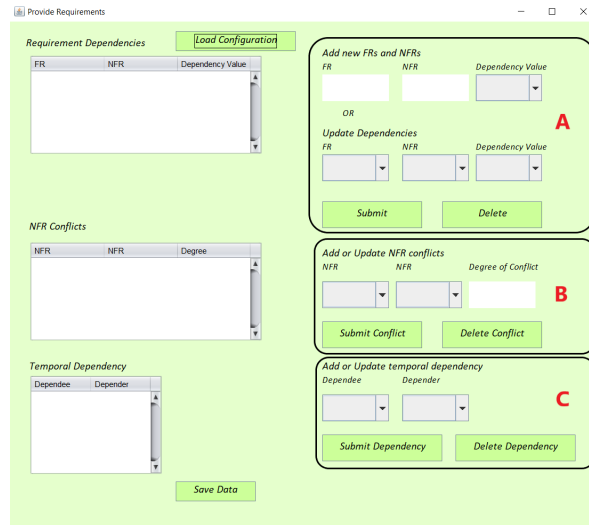

Figure 5: Requirement Specification Interface
Click on button marked as **C-1** (refer to Figure 4) to open requirement specification interface. Figure 5 shows the requirement specification interface.
- (a) Click on the "Load Configuration" (refer to Figure 5) button to load the data of the sample data set in the tool.
- (a) **Adding new FR & NFR:** In the "Add new FRs and NFRs" (refer to portion marked as **A** in Figure 5) section type the label of FR, its corresponding NFR and select the dependency value from the drop-down list (refer to to portion marked as **A** in Figure 5). Then click on the "Submit" button. The table at the left column (refer to Figure 5) displays the input submitted.
- (b) **Adding new NFR conflict:** FRs and NFRs has to be added into the list manually or to be loaded from existing set before specifying the conflicts. In the "Add or Update NFR conflicts" (refer to to portion marked as **B** in Figure 5) section select the pair of NFR that are in conflict using the drop-down list and also specify the degree of conflict (an integer value). Then click on the "Submit Conflict" button.
- (c) **Adding temporal dependency between FRs:** Similarly here also FRs has to be added into the list manually or to be loaded from existing set before specifying the dependencies. In the "Add or Update temporal dependency" (refer to to portion marked as **C** in Figure 5) section select the dependee and depender FR using the drop-down list. Then click on the "Submit Dependency" button.
- **Modify FR-NFR dependency Value:** In the "Update Dependencies" section select a FR, NFR and a new dependency value from the drop-down list (refer to to portion marked as **A** in Figure 5) and click on "Submit" button. The change can be viewed in the table at left.
- **Delete FR-NFR association:** In the "Update Dependencies" section select the FR and NFR from the drop-down list (refer to to portion marked as **A** in Figure 5) and click on "Delete" button. The change can be viewed in the table at left.
- **Modify NFR conflict value:** In the "Add or Update Conflicts" section select the pair of NFRs from the drop-down list and type the new conflict value (refer to to portion marked as **B** in Figure 5) and click on "Submit Conflict" button. The change can be viewed in the table at left.
- **Delete NFR conflict:** In the "Add or Update Conflicts" section select the the pair of NFRs from the drop-down list (refer to to portion marked as **B** in Figure 5) and click on "Delete Conflict" button. The change can be viewed in the table at left.
- **Delete temporal dependency:** In the "Add or Update temporal dependency" section select the pair of FRs from the drop-down list (refer to to portion marked as **C** in Figure 5) and click on "Delete Dependency" button. The change can be viewed in the table at the left.